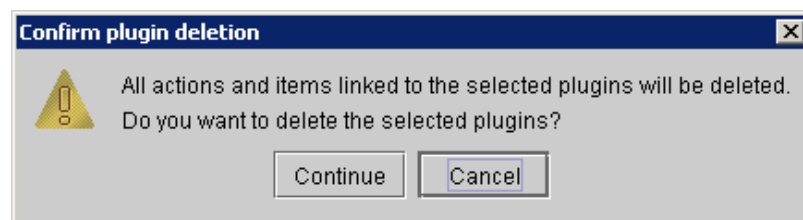

Figure 192 : JAR files deletion confirmation message
- ◆ Click on the **Remove** button; the following confirmation message then is shown (Figure 192):